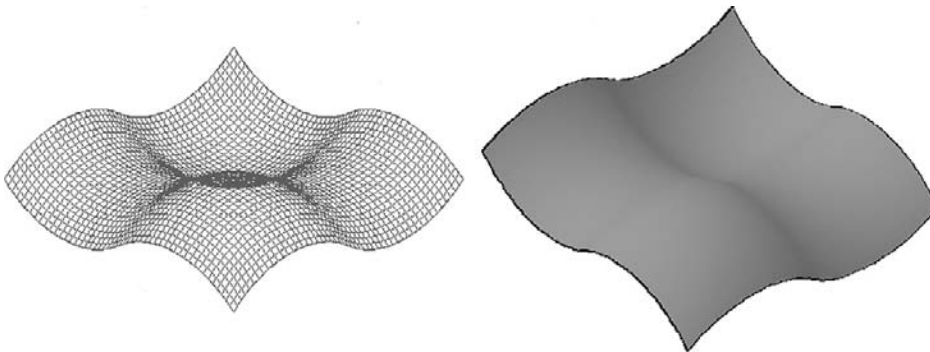

FIGURE 27.19
Step 3. After the final edge is selected, you see the mesh image shown on the left in Figure 27.19. On the right, it is shaded, colored, and slightly rotated for a better view.